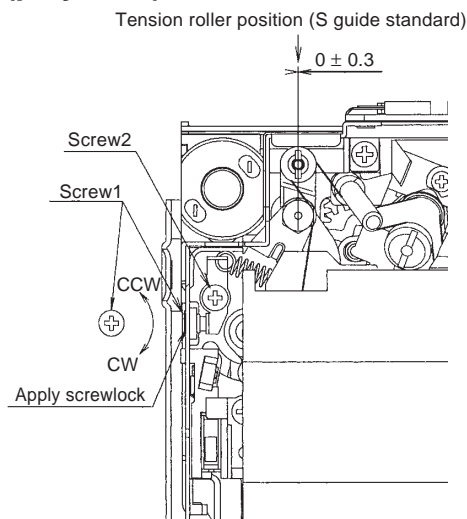

Fig. 4. Check (tape exists)
(2) Adjustment (Fig. 4)
If the value is out of standard range, adjust, using the screw 1 shown in Fig. 4.
Before winding the 60-min tape make sure that the tension roller is in the same position as S guide as shown in Fig. 4.